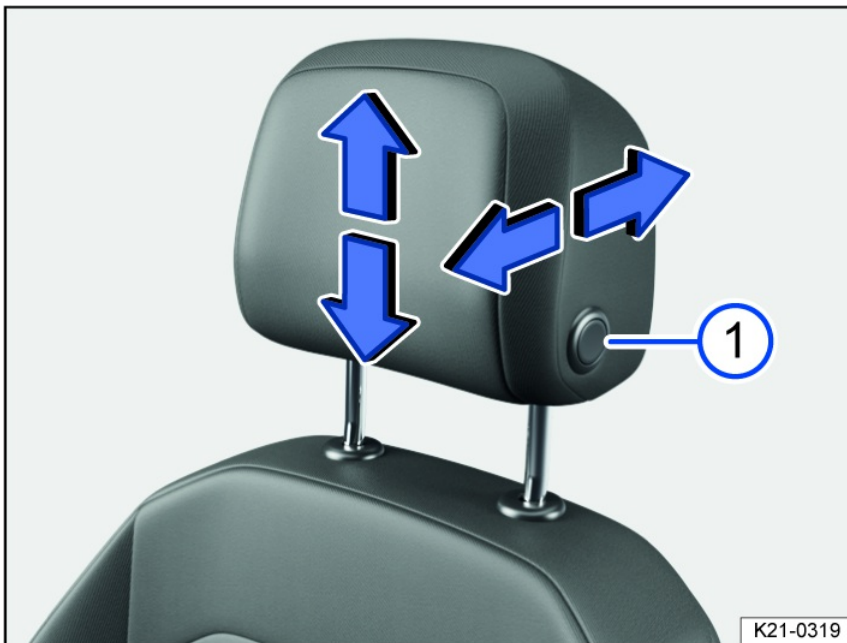

Fig. 74 General example: adjusting the front head restraint with forward/backward adjustment.
1. Push the head restraint forward in the direction of the arrow or, keeping the button *fig. 74* pressed, push the head restraint backward.